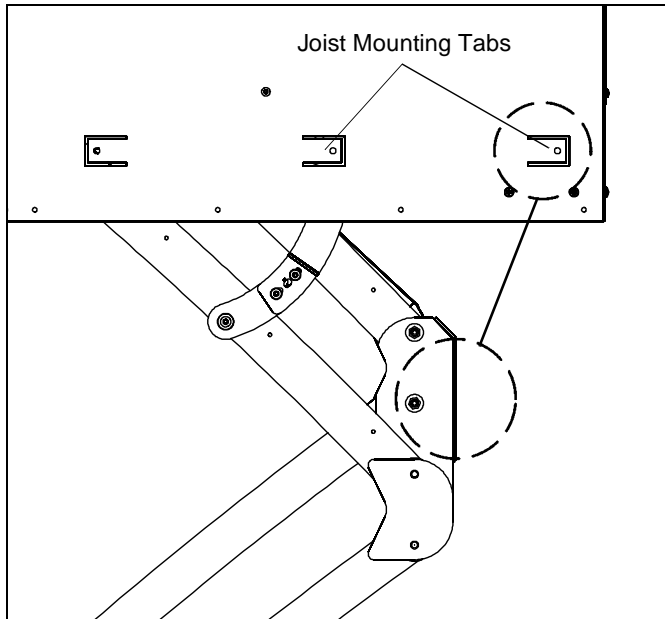

Figure 1
3. Connect these wires to the front of hinge assembly. (See Figure 1)